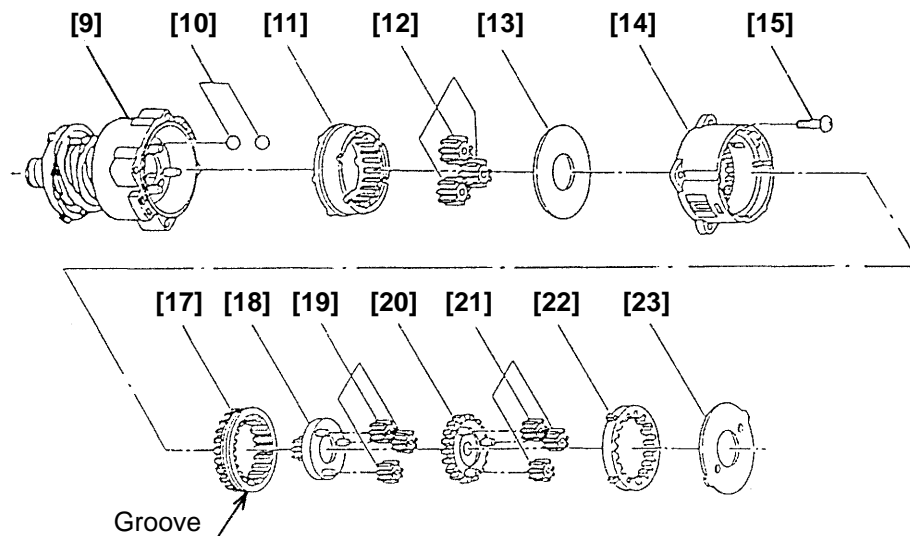

Fig. 9
(b) Install the parts series from the twelve Steel Balls D5 [10] to Washer (B) [23] into the assembly reassembled in step (2). (See Fig. 9.)